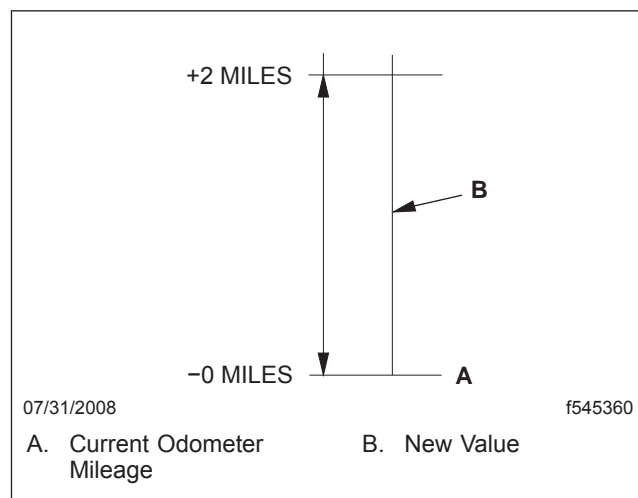

Fig. 9, Odometer Information
- If the new value is within -0 to +2 miles of the currently stored odometer, the LBCU odometer is set to the incoming value. See Fig. 9 for a graphic illustration. If the new value is outside that range, the LBCU odometer does not change, but the new value is stored and used as an offset to check the next incoming value.